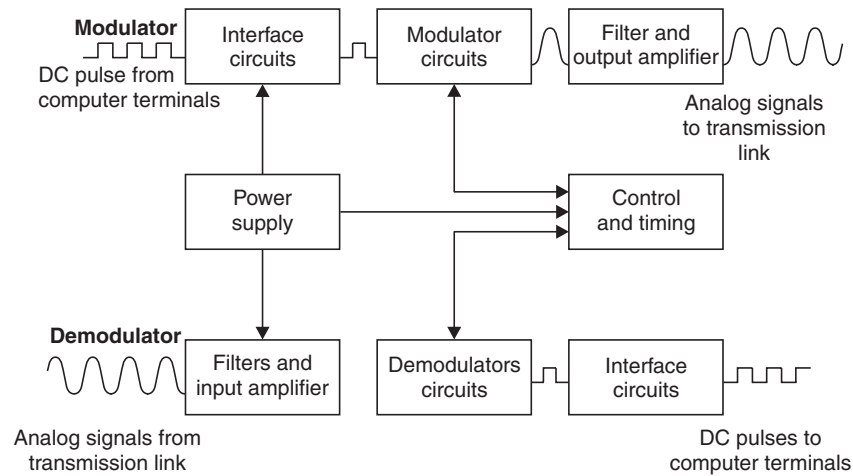

Fig. 5. Modem interfacing block diagram.
- Fig. 5 shows a modem interfacing block diagram :